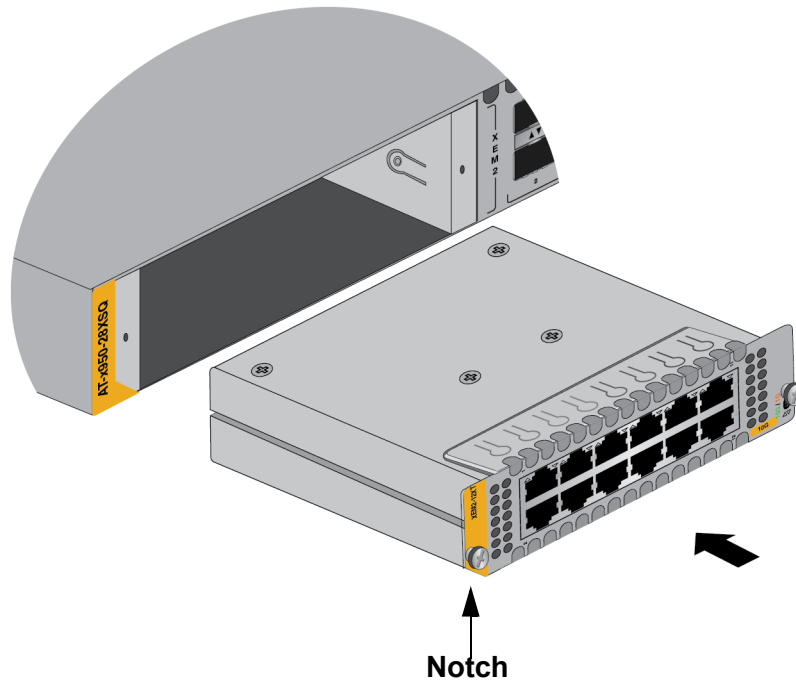

Figure 75. Sliding the Ethernet Line Card into the Slot
3. Position the line card with the notch on the faceplate in the bottom left corner, as shown in Figure 75, and carefully slide it into the slot.